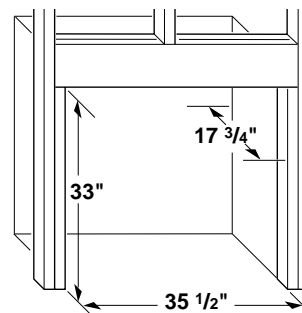
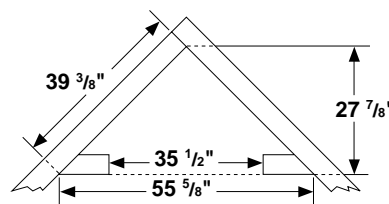

Figure 13 - Rough Opening for Installing in Wall
Figure 14 - Rough Opening for Installing in Corner
1. Frame in rough opening. Use dimensions shown in Figure 13 for the rough opening. If installing in a corner, use dimensions shown in Figure 14 for the rough opening. The height is 33" which is the same as the wall opening above.